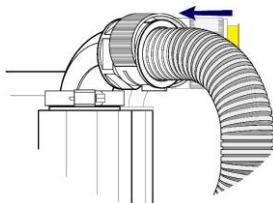

Fig 5.2.3
▶ Push about 5-6 ripple of the air inlet hose into the port (Fig 5.2.3)